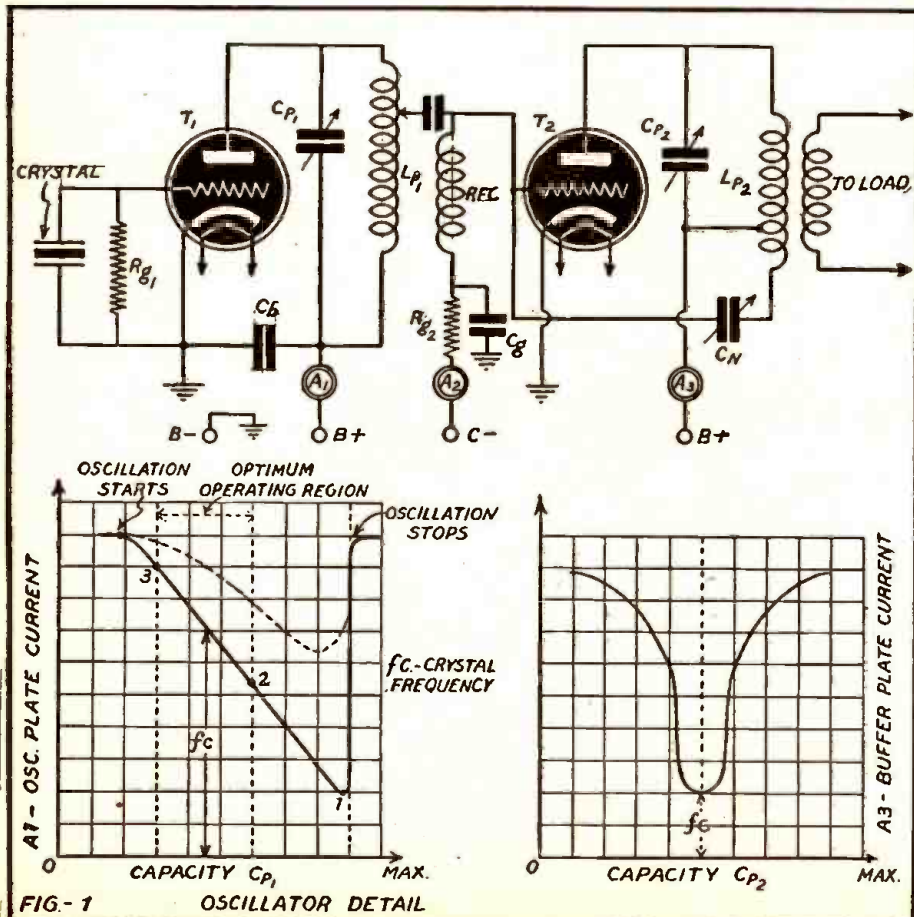

FIG. 1 OSCILLATOR DETAIL
Figs. 1, 2 and 3 show the simple method by which a single antenna may be used to serve all of the receivers in your home; does away with makeshift antennas and interference, when sets are tuned to different stations. Coil (A) consists of 20 turns of the antenna lead-in wire on a large spool at each receiver. Coil (B) may be 20 or more turns with one end dead, for inductively coupling each set. A layer of friction tape is placed over the completed windings on the spools which may be mounted in or near each receiver.—Marion F. Criswell.
The logical place to start in tuning the transmitter is at the crystal oscillator. In Fig. 1 a circuit diagram of a fundamental system is shown and also some curves on the action of the circuit are given. Tube T1 is the oscillator tube and T2 is the buffer. The tube T1 is usually a pentode or high-mu triode, since the higher the gain of the tube, the less is the grid-current flow at radio frequencies, and less heating of the crystal results in improved frequency stability and greater safety of operation.
tuning capacity at minimum and then tuning toward maximum capacity. Around point 3, as shown in Fig. 1, the plate current would start to dip and be registered on the ammeter A1. The tuning would be continued, Cp1 being adjusted for increased capacity until point 1 is reached and the plate current takes a sharp climb upwards. If the dip occurred at 70 on the dial and the climb started at 80, the dial would be reset to 72.5, or in the region of optimum operating stability. The coupling between Lp1 and T2 can now be increased by moving the tap on Lp1 higher and toward the plate of T1. The current indicated by A2 would then increase and Cp1 would be returned for minimum plate current dip. The condenser capacity would then be reduced by a slight amount, the previous settings serving as a guide, so that the operating point of Cp1 and the crystal circuit is in the region of best stability as indicated by the curve. In order to get any rectified grid current A2, some plate voltage at reduced intensity would be needed for T2. Neutralization of T2 could then be carried out, trimmer Cn being adjusted so that variations in the capacity of Cp2 have negligible reaction on the meter readings of A2. Increased voltage is then applied to T2 and Cp2 is adjusted for minimum plate current, which condition occurs when the buffer frequency is the
The tightest possible coupling between Lp1 and T2 is desired in order to insure minimum R.F. current in the crystal X. However, the coupling cannot be increased to a value greater than a certain figure determined by trial. Too tight coupling will pull the oscillator out of the oscillating condition. A reasonable amount of coupling is selected, giving low oscillator grid current without stopping oscillation. By using a low-power oscillator tube, the oscillator may be run with light loading and only moderate coupling between Lp1 and T2. Increasing the power of T1 means more critical adjustment and greater danger of breaking the crystal. Loading of a high-power oscillator is needed to limit crystal current. In the circuit shown in Fig. 1, the buffer is, of course, operating as a Class C stage, which means that the bias on the tube is set at a value equal to twice the cut-off value. The cut-off bias is the normal operating plate voltage of the tube divided by the tube's amplification factor. Part of this bias is developed by the grid leak, Rg2 with the remainder being supplied by a fixed bias supply, such as a battery of stabilized rectifier-transformer system.
In Fig. 1, the grid-leak current for the Class C buffer is indicated by meter A2. The plate tank condenser Cp2 is always tuned, of course, for minimum plate current. However, in some cases a further adjustment is provided in the form of a tap for the plate coil, the plate connection of the tube being to the tap on Lp2, so that more or less—as required—impedance may be obtained. An impedance match between the plate-cathode of the tube and the tank circuit is desired for maximum transfer of energy.